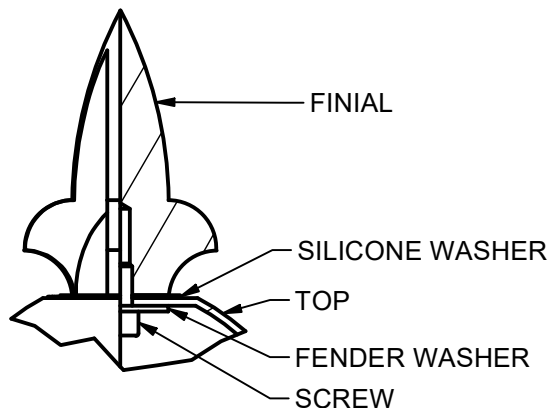

FIGURE 3.
- 3) CAP TO TOP WITH FINIAL: SEE FIGURE 3 FOR ASSEMBLY ILLUSTRATION.
- 4) NECK RING (OPTIONAL): PLACE NECK RING OVER BOTTOM NECK AND SECURE WITH FASTENERS IN FITTER. SEE FIGURE 3.
- 5) LITELID (OPTIONAL): PLACE LITELID INTO BOTTOM, WITH RAISED SIDE FACING UP. SEE FIGURE 3.